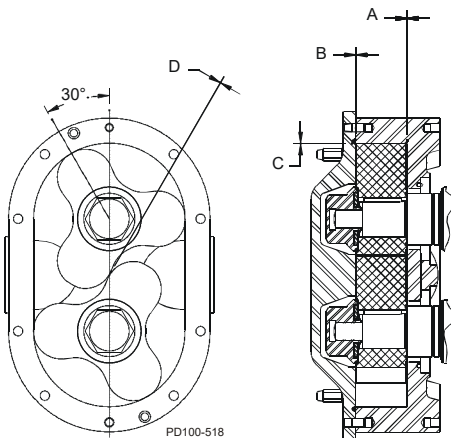

Figure 53 - Measure Clearance
9. Measure the rotor backface clearance (Figure 53, item A) through the port or from the front. For optimum pump operation, the backface clearance for both rotors must be the same and must be ± 0.0005 " of the value found in Table 9, "Standard Rotor Clearance," on page 40.
10. Check the rotor front face clearance (Figure 53, item B).
11. Check the rotor to body clearance (Figure 53, item C).